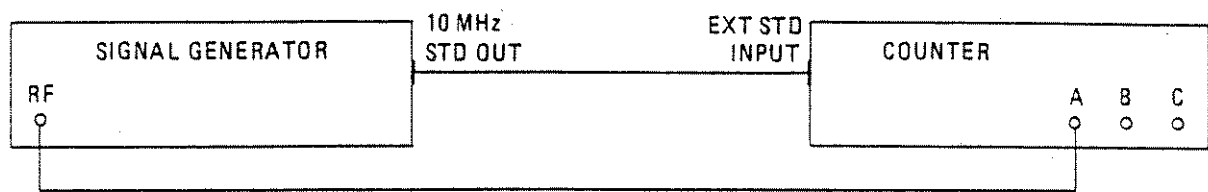

**Fig. 6.3 Location of R149 and R192**
- 28 First, set resistors R149 fully counterclockwise and R192 to its midposition. R192 is located inside the screened module (access holes provided) as shown in Fig 6.3.